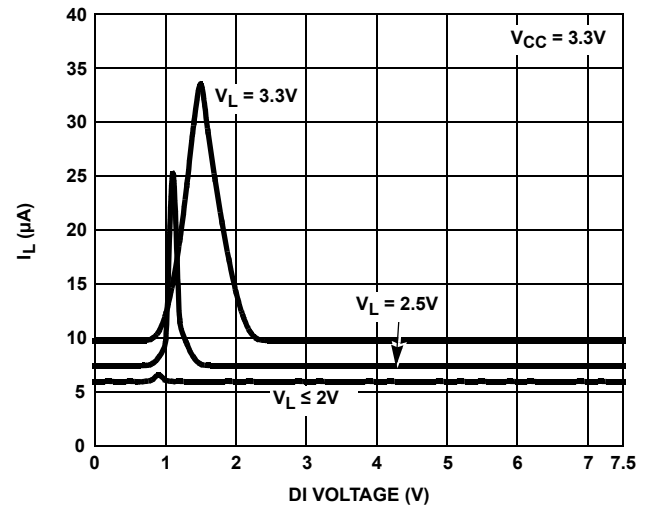

FIGURE 12. V_L SUPPLY CURRENT vs LOGIC PIN VOLTAGE
The VL supply current (IL) is typically much less than 20μA, as shown in Figure 12 on page 11, when DE and DI are above/below VIH/VIL.